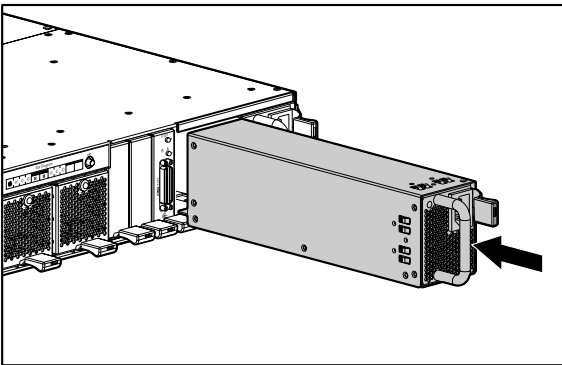

Figure 8: Installing the power supply
2. Install the power supply by pushing the power supply module latch to the left and pushing in the base until the assembly is fully seated in the enclosure as shown in Figure 8.